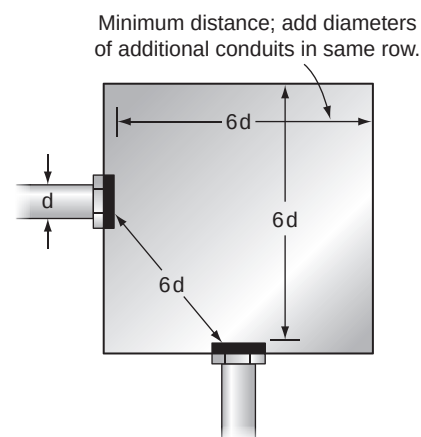

FIGURE 6-39 Calculating pull and junction box size for angle pull. (Delmar/Cengage Learning)
- For angle pulls or U pulls or where splices are made, the distance between the raceways and the opposite wall of the box or conduit body must be at least six times the diameter of the largest raceway. To this value, it is necessary to add the diameters of all other raceways entering in any one row of the same wall of the box, Figures 6-39, 6-40, and 6-41. When more than